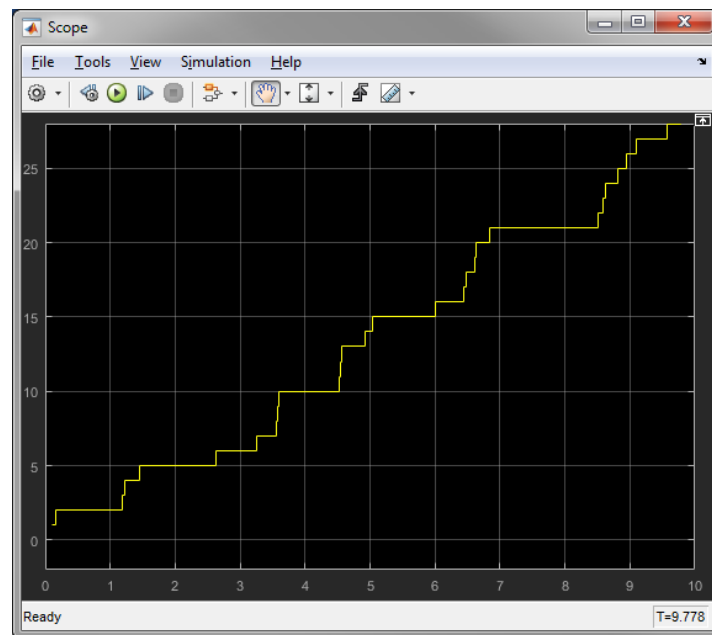

Figure 8: Exercise 2 scope display
6. Click Run to start the simulation and you should see the scope as shown in Figure 8.